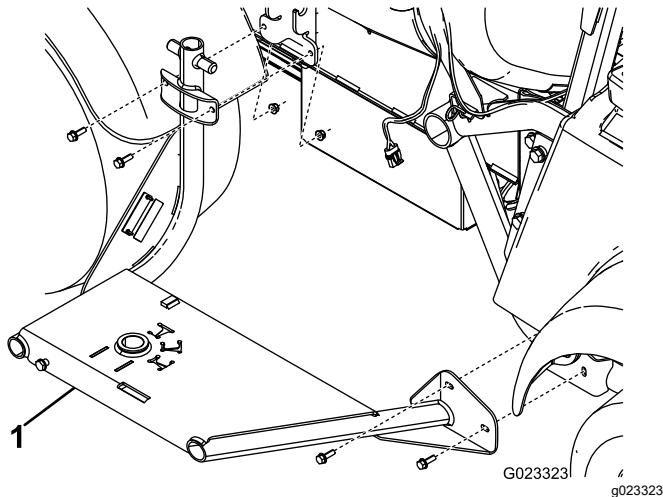

Figure 8
1. Mount the hose-reel frame to the side of the machine using 4 bolts (5/16 inch) and 4 flange nuts (5/16 inch) as shown in Figure 8.